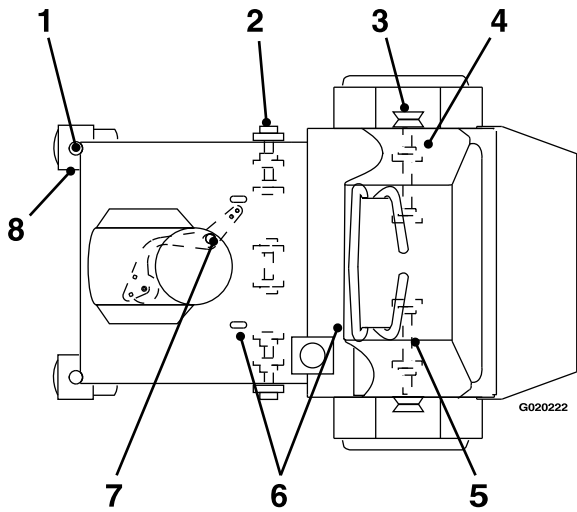

Figure 32
2. Wipe clean the grease fittings with a rag (Figure 32).
3. Connect a grease gun to the fitting (Figure 32).